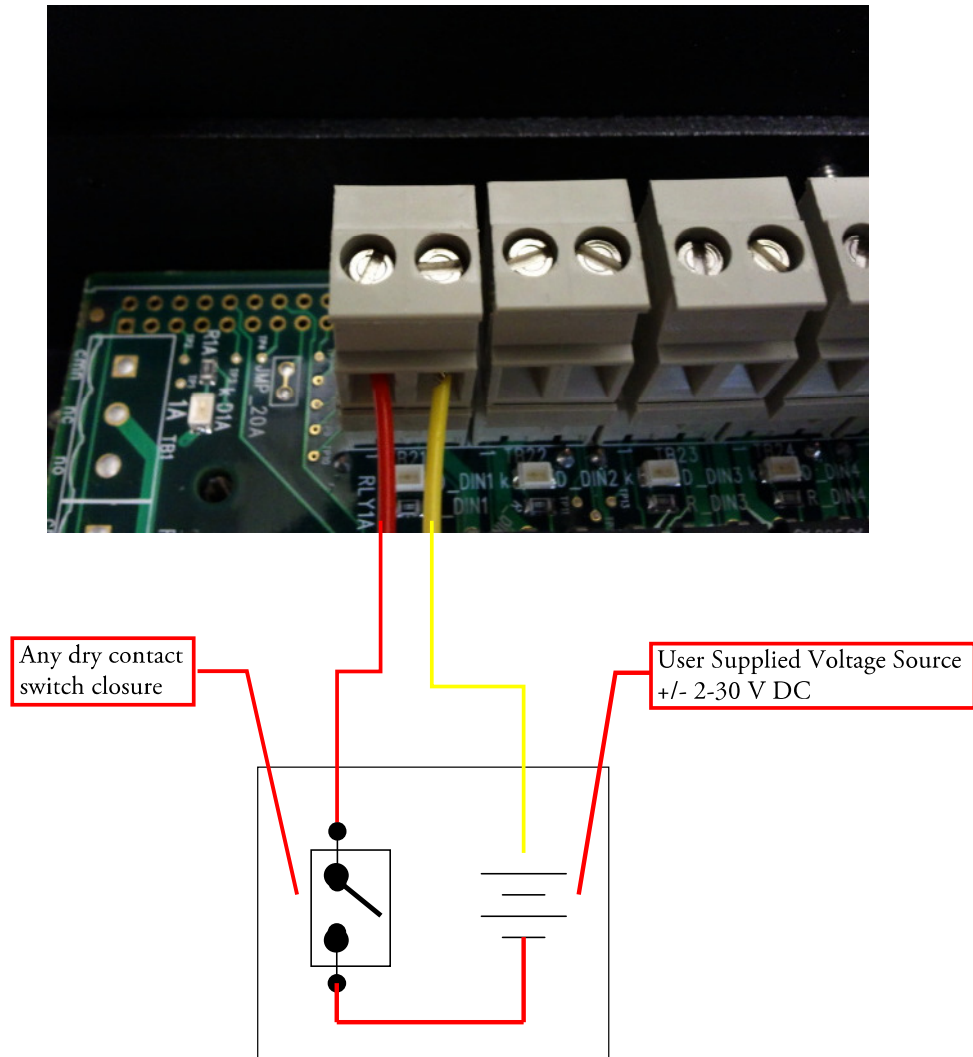
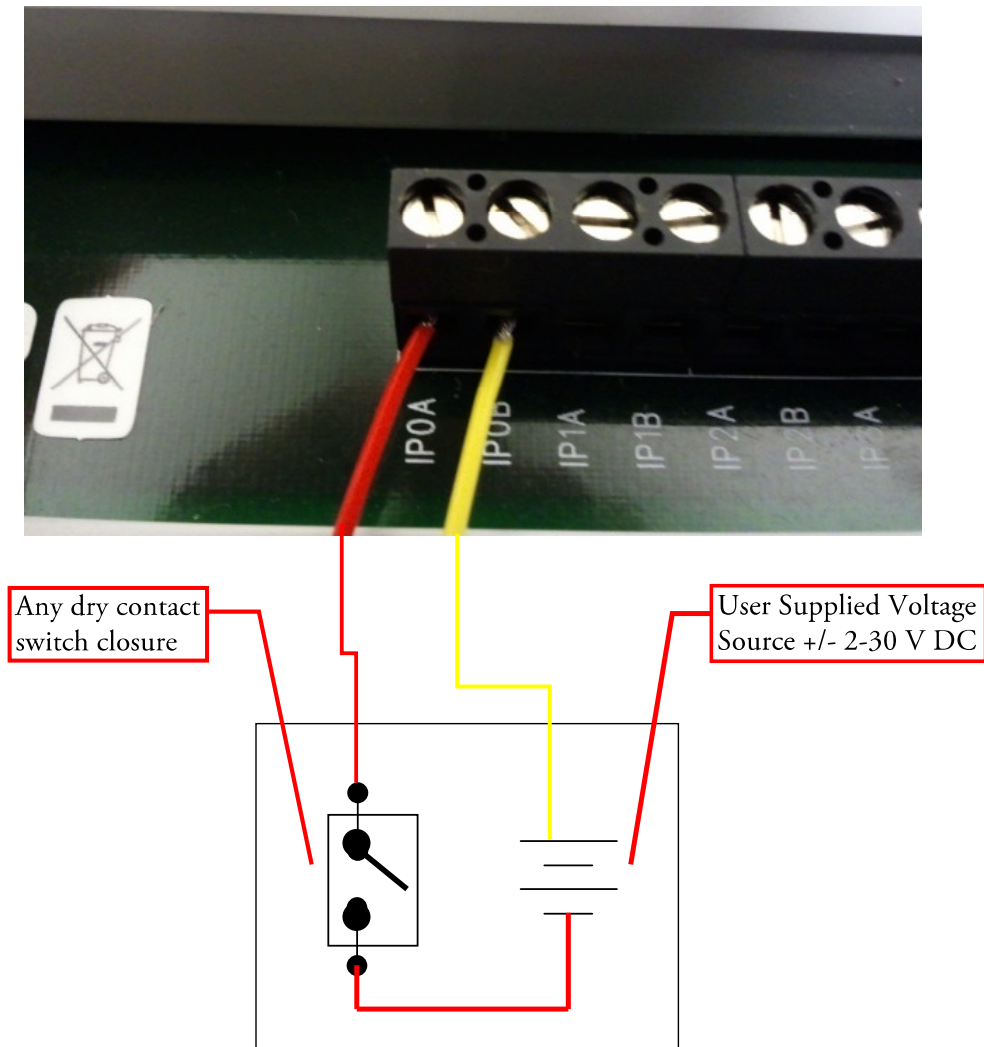

Figure 12. PTRB with connection to DIN0 Connected to Voltage source and dry contact switch closure.
Figure 13. Illustration showing PDIS08 with connection to IP0 connected to voltage source and dry contact switch closure.
- 1.1 With a screwdriver, turn the screw shown in Figure 12 counterclockwise until opening below for the wire is all the way open.
The following figures illustrate the second method of wiring a voltage source and a dry contact switch in series between your two signal wires first for the PTRBx (Figure 12) and then for the PDIS08 (Figure 13).